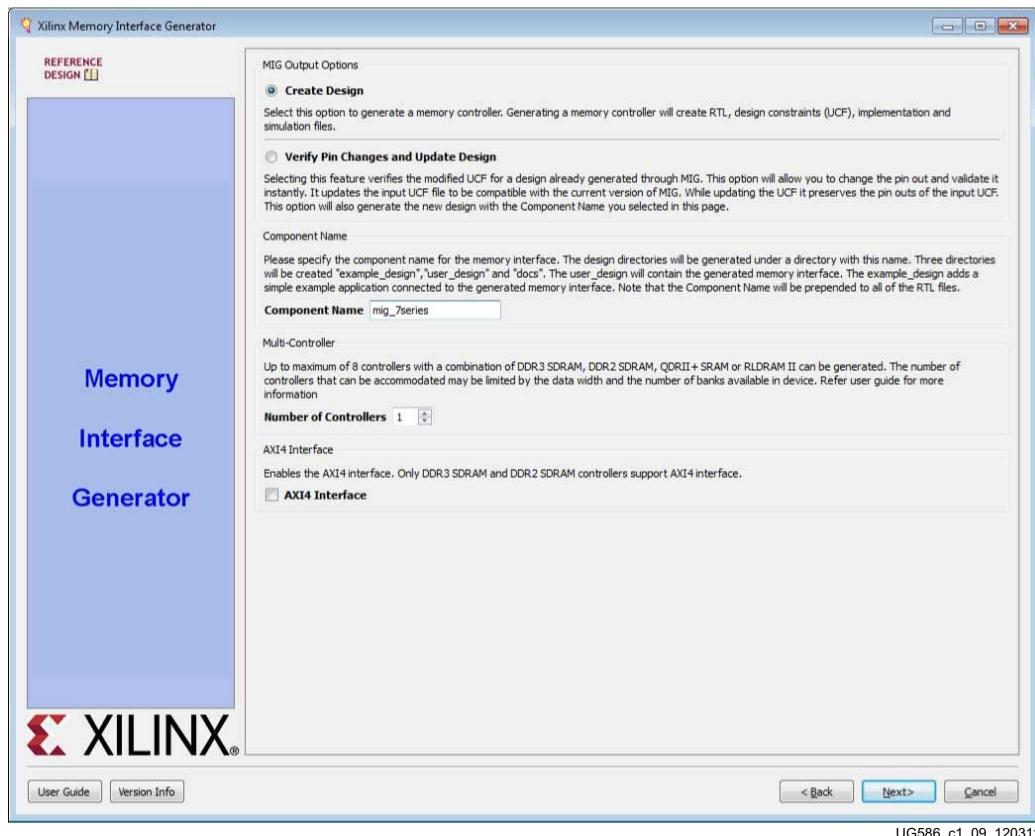

Figure 3-14: MIG Output Options
1. Select **Create Design** to create a new Memory Controller design. Enter a component name in the Component Name field (Figure 3-14).